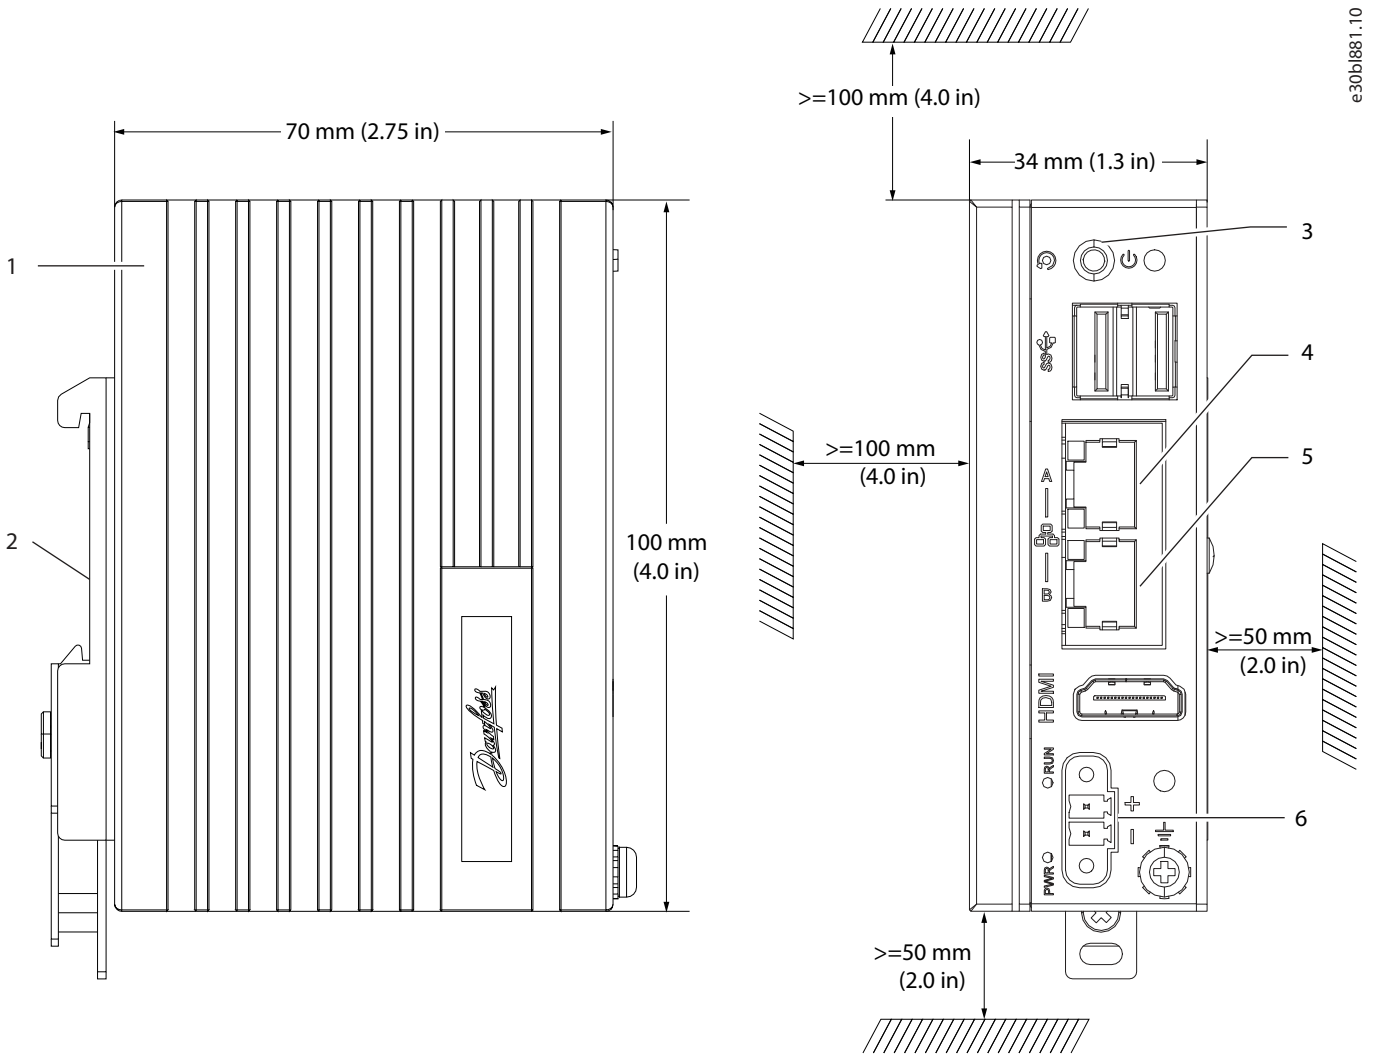

Figure 1: MyDrive® Vault Dimensions and Installation
1. Mount MyDrive® Vault using the clearance requirements shown in Figure 1.
3. Connect a PC to the MyDrive® Vault through the production network, see Figure 1 point 4.